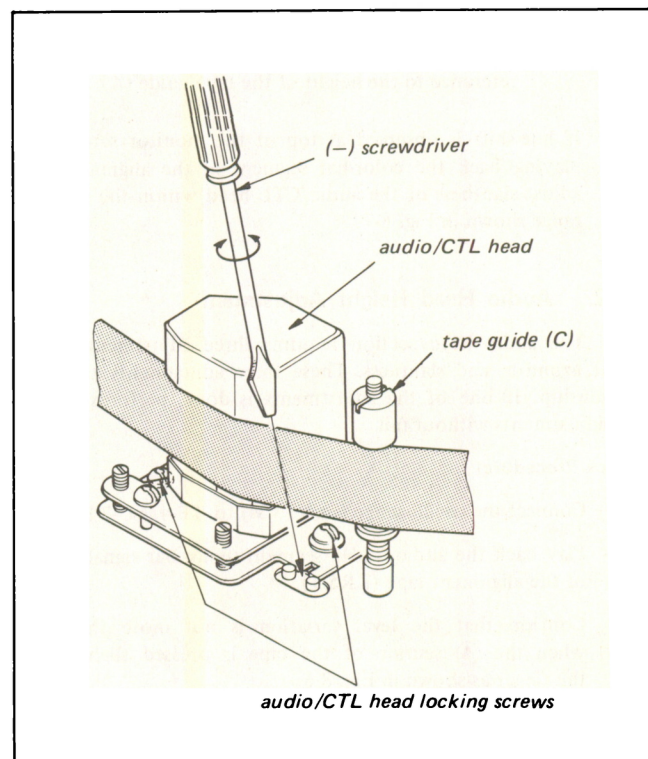

Fig. 8-8. Audio/CTL head position adj.
5. Adjust audio/CTL head position with a (-) screwdriver as shown in Fig. 8-8 so that the playback RF output level of the color-bar or monoscope signal of the alignment tape (KR5-1) is maximum when the TRACKING control is in the FIX position.